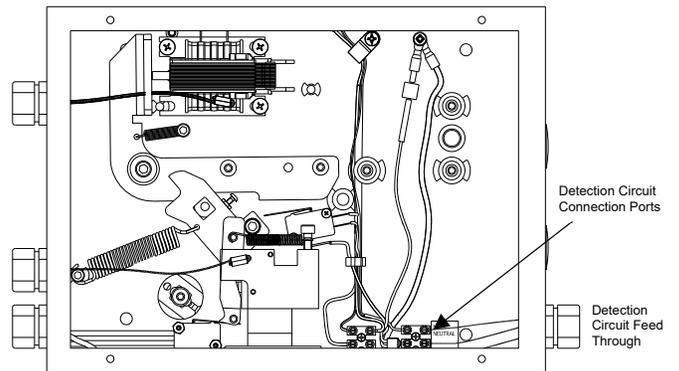
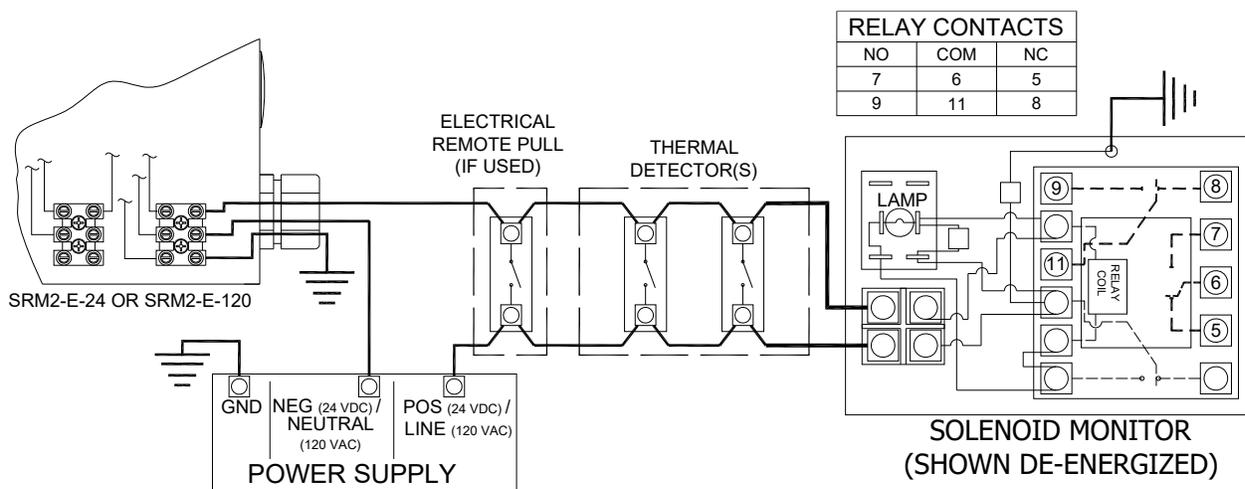

Figure 4-60.
Figure 4-59
The **Model SRM-E-24** Electrical Systems Releasing Module requires a 24 VDC power supply with a 2A rating. The detection/actuation circuit shall be supervised by the **Model SM-24** Solenoid Monitor (see Solenoid Monitor Installation). See **Figure 4-59**.
The **Model SRM-E-120** Electrical Systems Releasing Module requires a 1A, 120 VAC power supply. The detection/actuation circuit shall be supervised by the **Model SM-120** Solenoid Monitor (see Solenoid Monitor Installation). See **Figure 4-59**.
Once the Systems Releasing Module, thermal detectors, power supply, and Solenoid Monitor have been installed the detection/actuation circuit can be wired as follows (see **Figure 4-59**):
2. The neutral or negative wire from the power supply and the neutral or negative wire from the first thermal detector are inserted into the top two open terminal ports (one wire in each port) of the terminal block located in the lower right corner of the **SRM2-E**. A ground wire shall be attached to the bottom port of the connection terminal. The other wire (line/positive) from the thermal detector will be connected to the line/positive port of the power supply. See **Figure 4-59** and **Figure 4-60**.